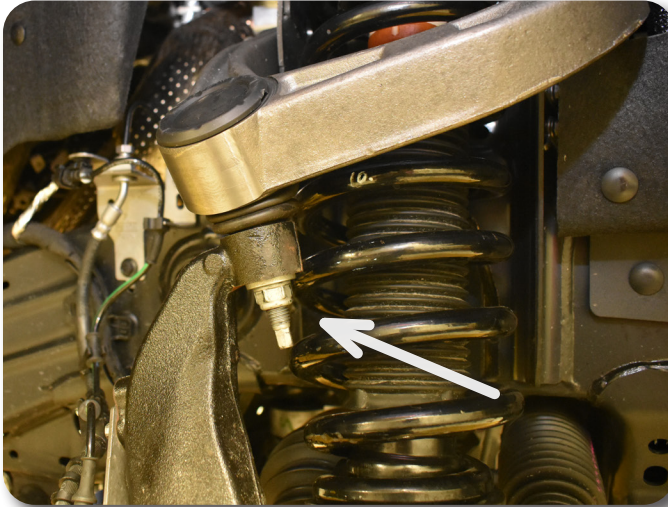

Figure 6
11. Attach the upper ball joint to the steering knuckle with factory hardware. Torque the upper ball joint nut to 46 ft-lbs **Figure 6**.